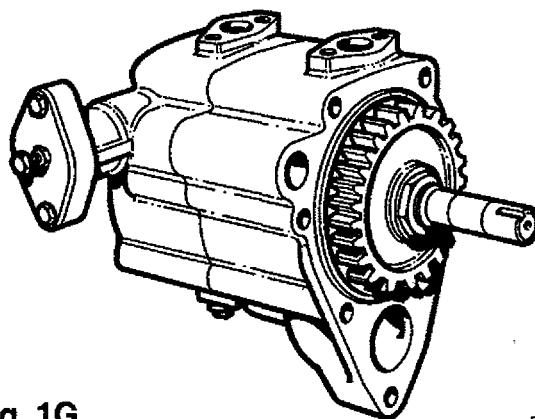

Fig. 1G
The oil pump (see Fig. 1G **Original Front Entry Oil Pump** and 2G **Current Side Entry Oil Pump**) comprises two cast and machined housings. These are the body (1) and cover (2), in which is carried a drive shaft (3) running in replaceable plain bearings (4). The drive shaft, driven from the timing gears by a spur gear (7) keyed to the shaft, drives the pump rotors (5) and (6), alternator drive pulley, and fuel lift pump through a drive coupling (17). The inner rotor (5) keyed to the shaft by a parallel key (10), has external lobes which mesh with the internal lobes of the outer rotor (6) while turning on an eccentric pitch circle and thus both form the working components of the oil pump. The extended shaft, at the gear end, provides for mounting the alternator drive pulley, which is retained on the shaft by a taperlock bush. The relief valve (See Fig. 5G) comprising plunger (25), spring (24) and spring retainer (23) all enclosed within the pump cover (2), has a pressure adjustment screw (20) with locknut (21) incorporated in the retaining flange (19). This allows for adjustment to give the required output pressure from the oil pump. The retaining flange is secured to the pump cover by two screws. Rotor end float is determined by fitting a joint (15) of the correct thickness between the body (2) and pump cover (1).